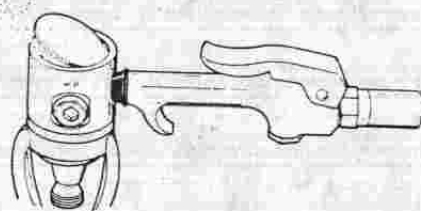

FIGURE 2
9. Secure the dust cap (Item 26) in place by means of the yoke screw (Item 24). Using the low-pressure filtered air directed down through a low-pressure port on the first-stage body (Item 1), blow out the primary diaphragm (Item 7). (See Figure 2). Discard the used diaphragm.